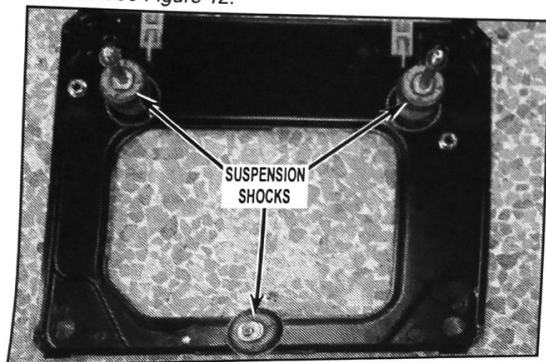

FIGURE 12
17. Remove all three (3) suspension shocks from the base and discard. See Figure 12.